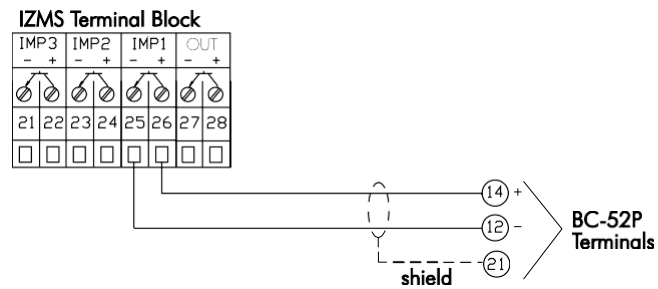

Figure 3-12. BC-52P Batching Controller Signal Wiring Configuration
- BC-52P Batching Controller (Figure 3-12)